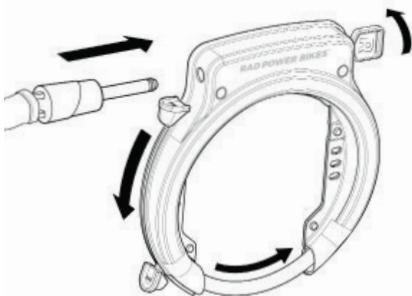

Figure 12: Install the security chain and lock the shackle
- Turn the key clockwise and press the thumb lever toward the wheel lock opening until the shackle locks in the fully closed position (Figure 12). Then turn the key counter-clockwise to lock the shackle in this position. Make sure the shackle does not interfere with any spokes or the rim of the wheel. Check that the bike is secure. Remove the key.